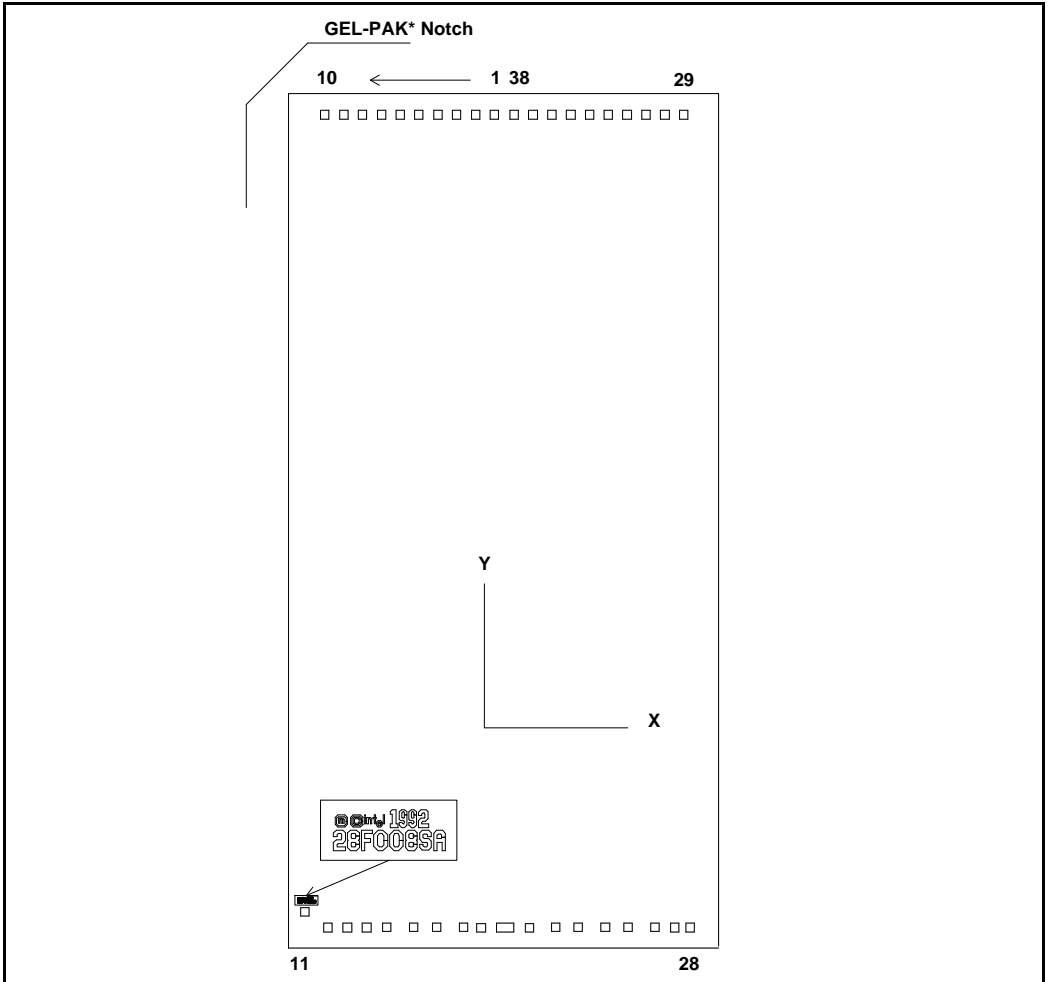

Figure 2. 28F008SAC 8-Mbit FlashFile™ Memory Die/Bond Pad Layout
- Figure 2. 28F008SAC 8-Mbit FlashFile™ Memory Die/Bond Pad Layout 2
Post-Saw Die Dimensions:	Mils: X = 211 ± 0.5, Y = 413 ± 0.5 See Figure 2 for X, Y orientation.